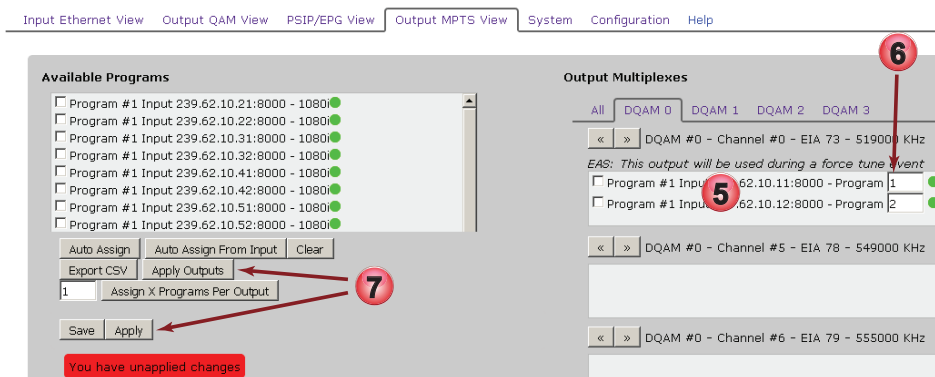

Figure 5-7: Programs Added to MUX
5. The programs are moved to the multiplex list as shown in Figure 5-7.